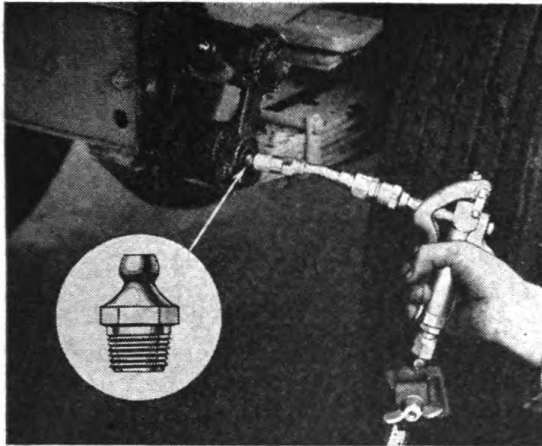

Figure 20
(1) *To Service Hydraulic Fittings* (See Figure 20).